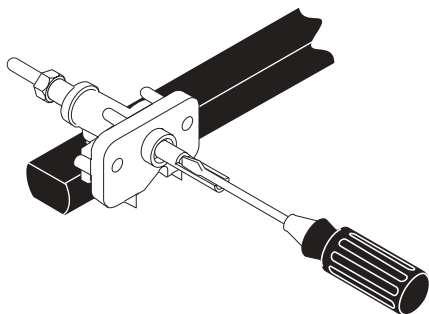

Figure 10
9.4 Adjust the "LOW" Setting of Surface Burner Valves (see Figure 10)